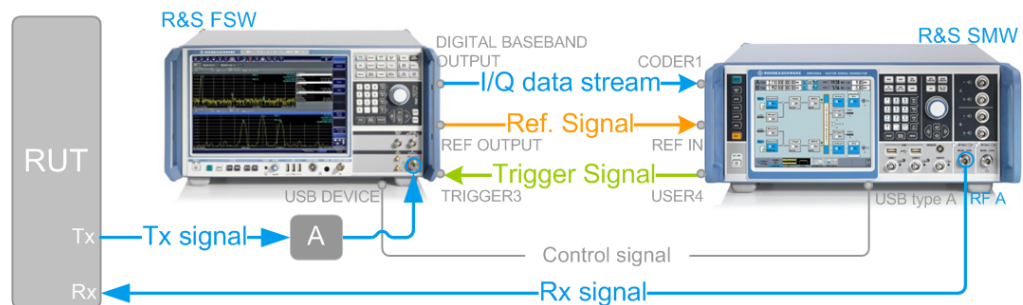

Figure 4-1: Example of conducted test setup (front panel view)
- A **conducted test setup** is used (see Figure 4-1)
Required connectors are on the front panels, see Figure 4-1.
If the R&S FSW is connected to the R&S SMW200A as shown on Figure 4-1, the R&S SMW200A automatically detects it.